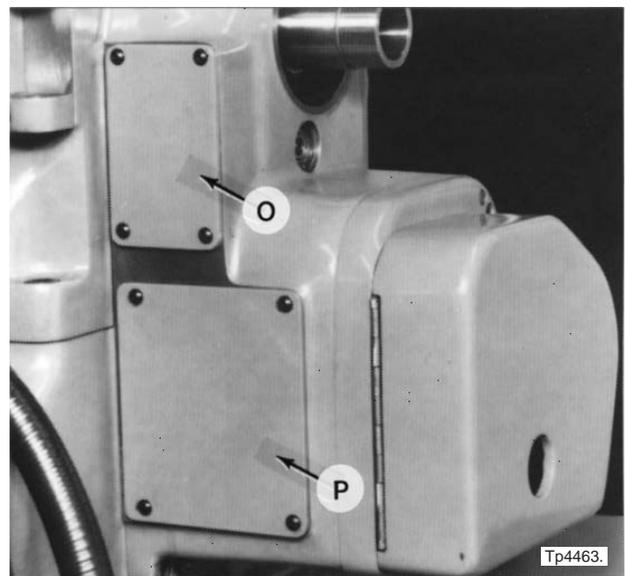

Figure 4.7 - Gearbox Rear Covers
4. Remove covers "O" and "P", Figure 4.7 .